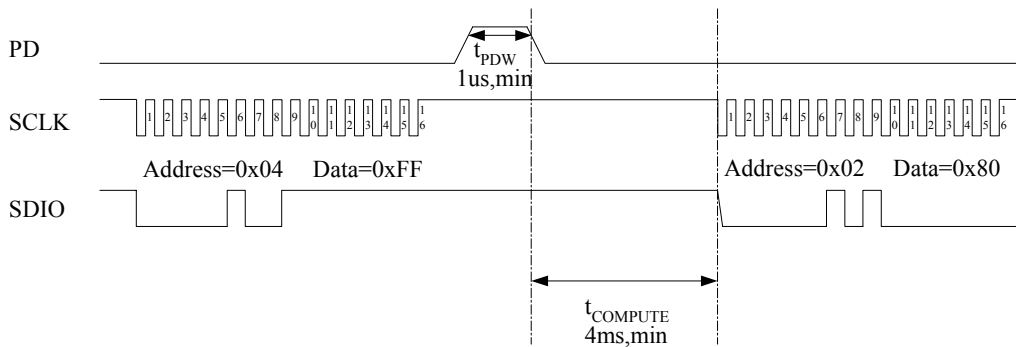

Figure 8. Read the motion data from PAN101B
| $t_{COMPUTE}$ | Data delay after PD \downarrow | 4 | | | ms | After $t_{COMPUTE}$, all registers contain valid data from first image after PD \downarrow . Note that an additional 128 frames for Auto-Exposure (AE) stabilization may be required if mouse movement occurred while PD was high. (Refer to Figure 8.) |